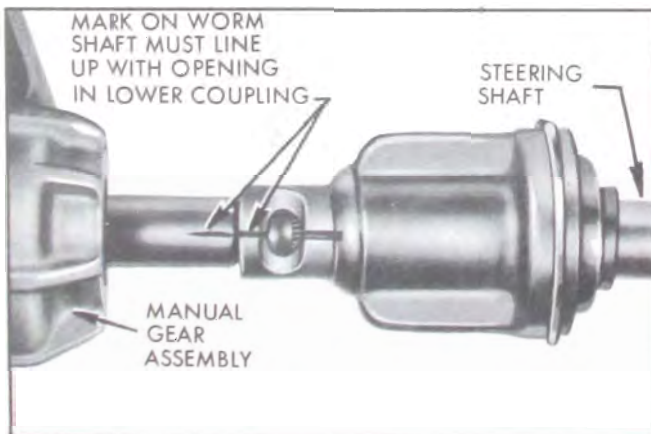

Figure 8-15—Correct Worm to Lower Coupling Attachment
5. Slide lower coupling on worm shaft so that slot in coupling lines up with mark on shaft. See Figure 8-15.
6. Lower steering shaft, guiding bearing into actuator at upper end, and slide coupling on to steering gear worm shaft. The mark on worm shaft must line up with opening in coupling. See Figure 8-15.